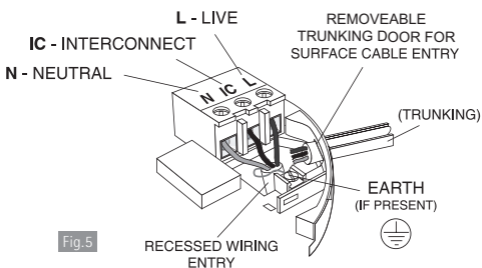

Fig.5
4. If the mains wires are recessed, bring the wires through the rear hole in the mounting plate as shown in Figure 5.
(a) position the mounting plate so the cable trunking is as shown in Figure 5.